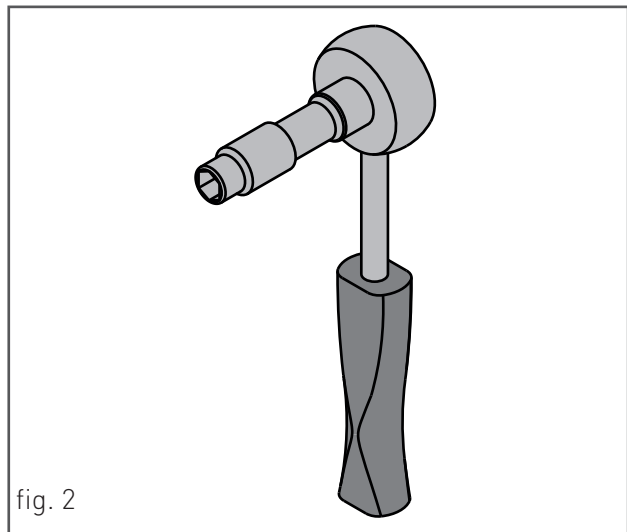

fig. 2
- › unscrew the three fastening screws '2' (fig.1) of the venturi 'V' (fig.1) using a 10 wrench, as shown in figure 2;